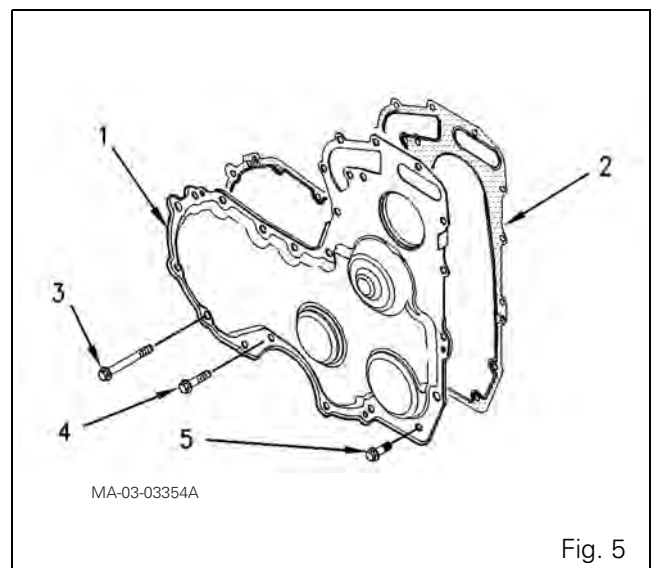

Fig. 5
20. Remove the screws (3) (4) and (5) from the cover plate (1) (Fig. 5).
21. Remove the cover plate (1). Take off and discard the seal (2) (Fig. 5).